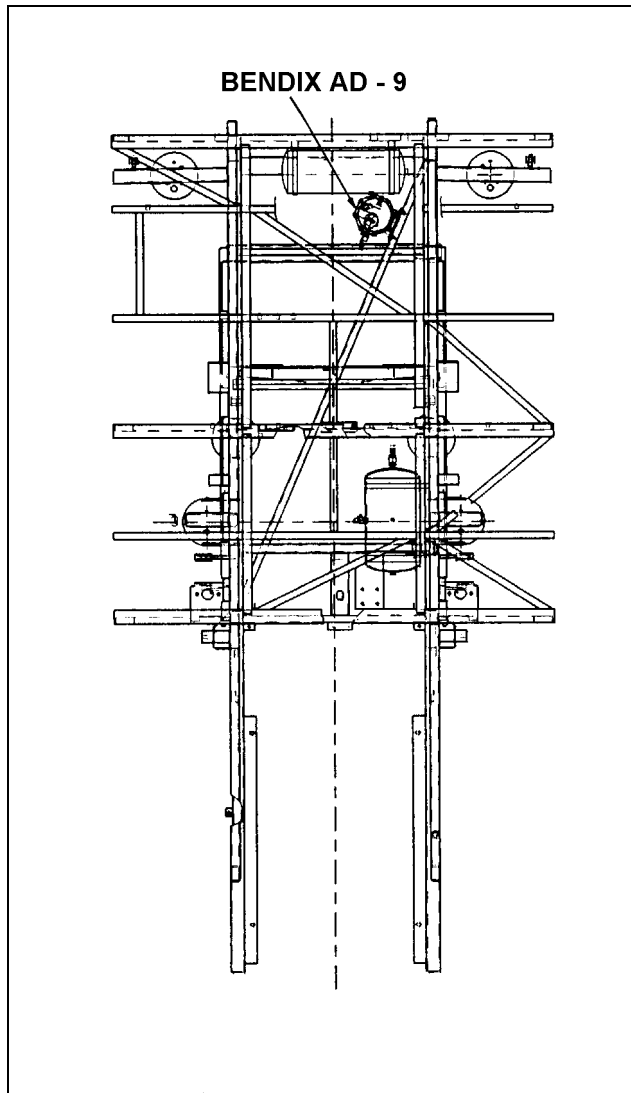

FIGURE 3: REAR SUBFRAME
10. Install Bendix AD-9 air dryer on diagonal beam using top bolts to support the weight (refer to fig. 3).